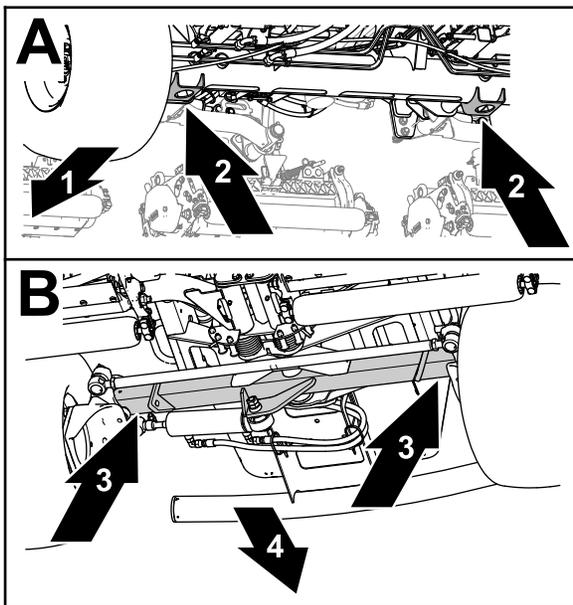

Figure 72
- Front—the jack brackets of the front-axle tube (Figure 72).